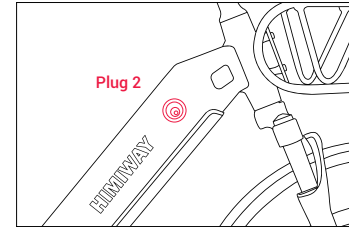

Figure 9
**Step 3:** Remove the rubber cover on the charging socket and insert the DC plug (Plug 2) of the charger into the battery charging socket (fig. 9).